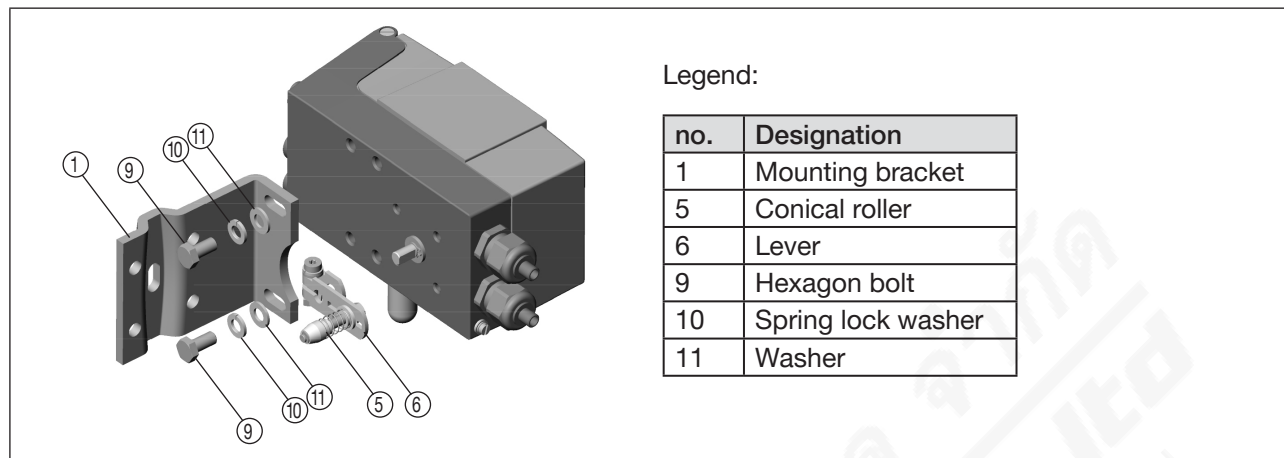

Figure 19: Attaching the mounting bracket to the SideControl Type 8635
→ Attach the mounting bracket ① to the rear of the SideControl Type 8635 using the hexagon bolts ⑨, the spring lock washers ⑩ and the washers ⑪ (see “Figure 19”).